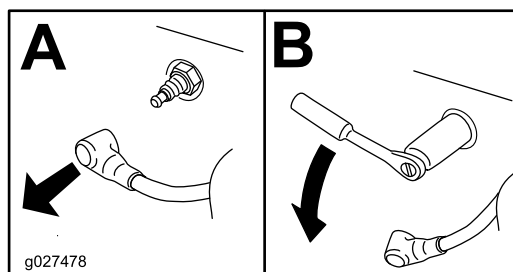

Figure 28
4. Remove the spark plug(s) as shown in Figure 28.